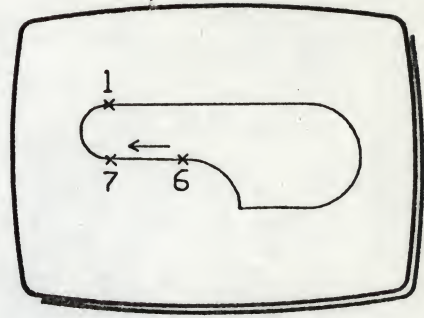

Fig 4
- 20 Move XY to move the dynamic cursor to (7) in Fig 4.
- 23 Move XY to move the dynamic cursor to (1) in Fig 4.